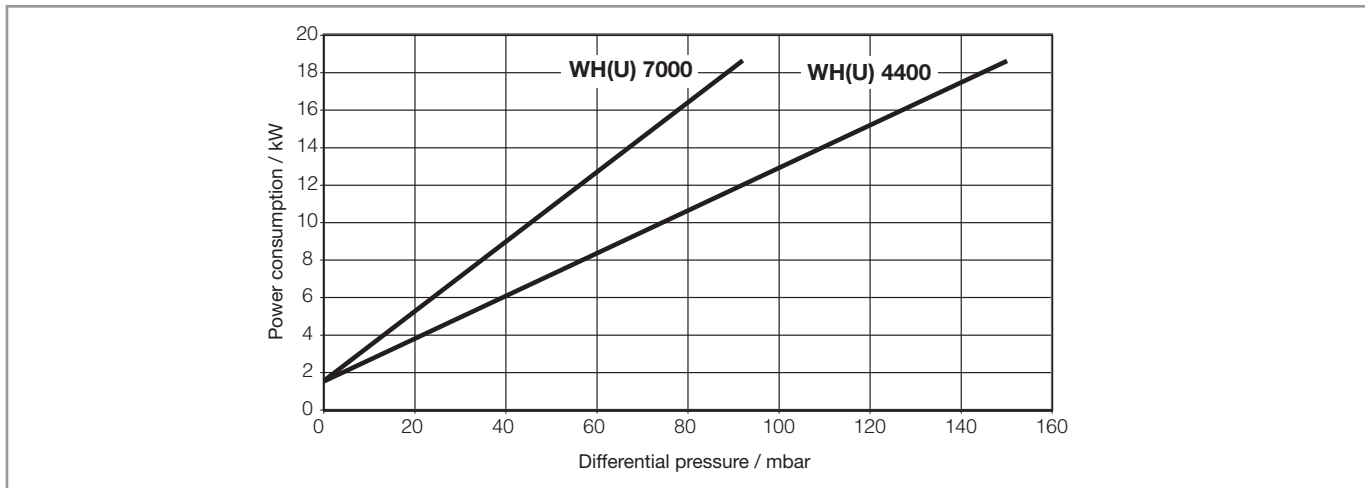

Fig. 1.6 Power consumption of the RUVAC WH/WHU
- the pressure difference between the inlet and the discharge flange (see fig. 1.6)